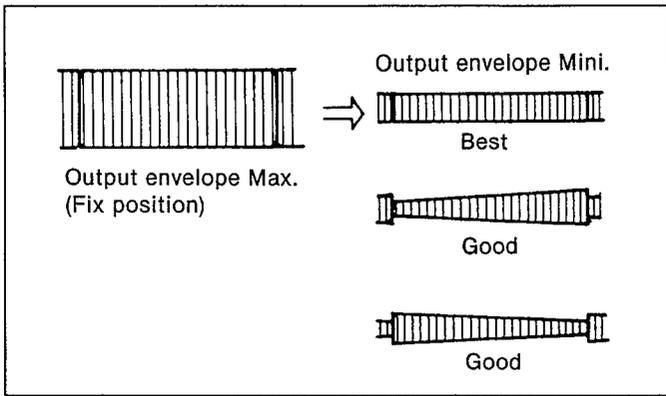

Fig. M23
7. Turn the Tracking VR fully clockwise and counter clockwise. The output envelop should vary nearly parallel with other condition as shown in Fig. M23.